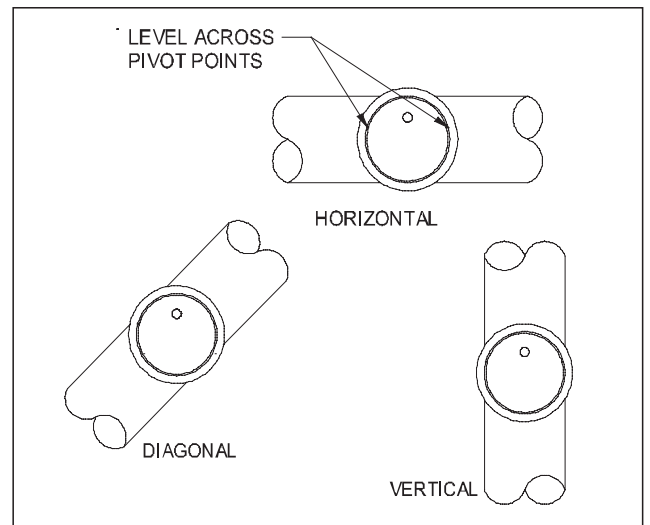

Figure 4
4. Mount the VRV assembly into the tee and fasten with a screw and nut in collar tabs. (See Figure 4) To ensure proper operation, check the gate for being level across the pivot point and plumb.
3. Mount VRV assembly onto the tee and fasten with a screw and nut in collar tabs. (See Figure 4) To ensure proper operation, check the gate for being level across the pivot points and plumb.